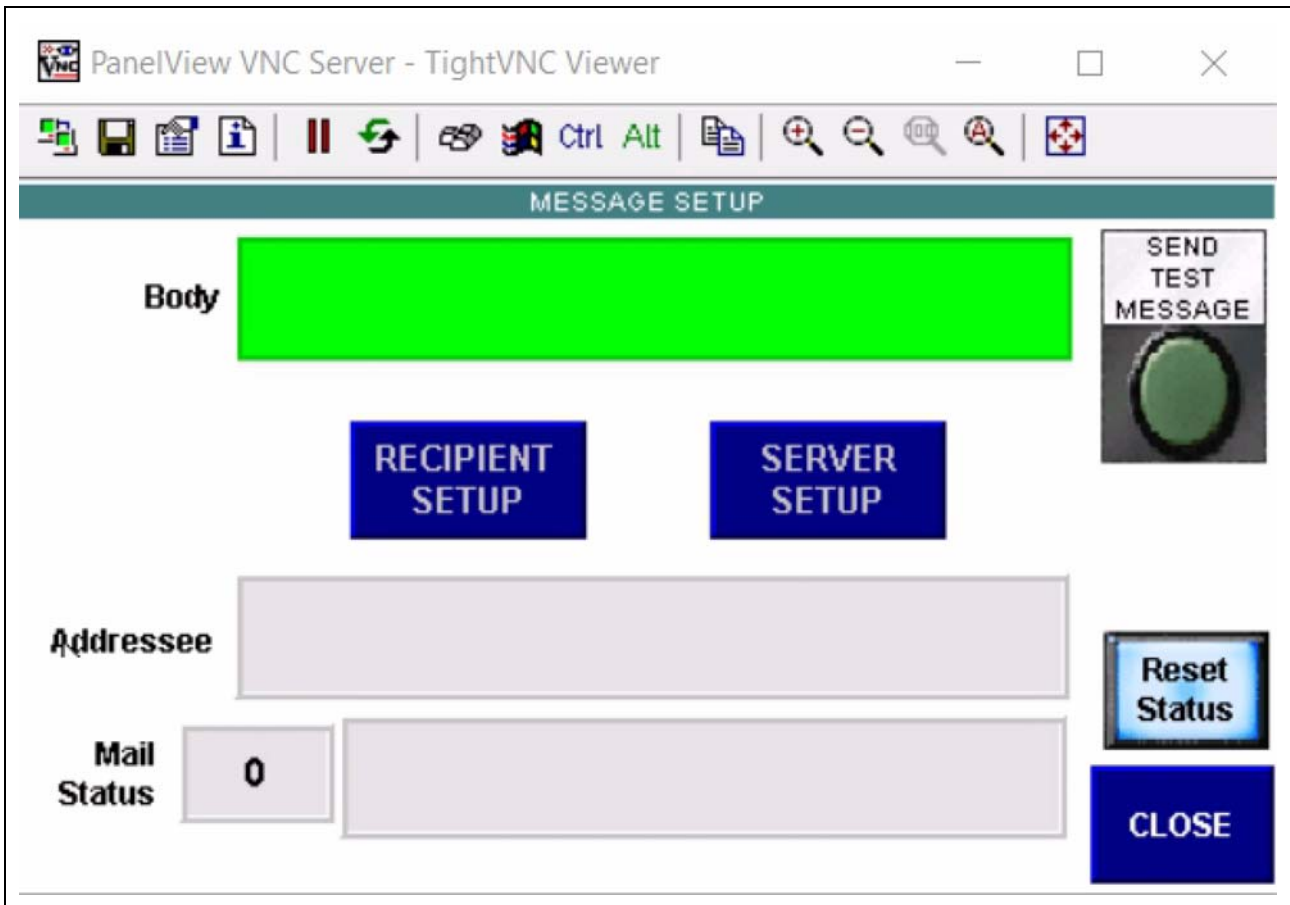

Figure 6C
2. You will now see the Message Setup screen. (See Figure 6C.)